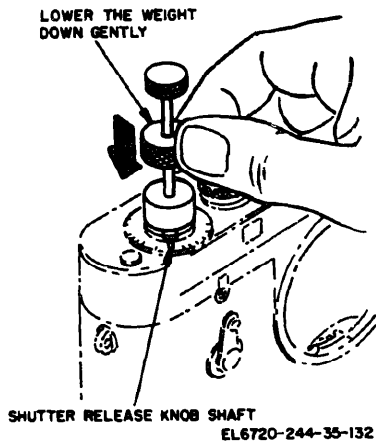

Figure 6-6. Adjustable weight with center shaft
b. *Test Equipment* (fig. 6-6). This check re-